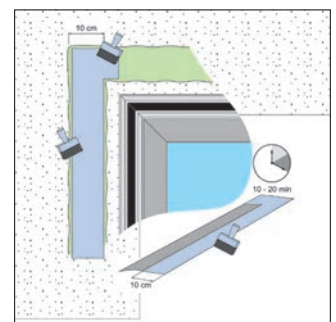

Fig 2: Application of CT113 Contact Adhesive
- Bonding onto porous materials (also non-porous materials resistant to the adhesive solvent) is normally achieved using CT113 Contact Adhesive which is applied by brush or roller in an even layer to BOTH bonded surfaces (see Fig. 2).